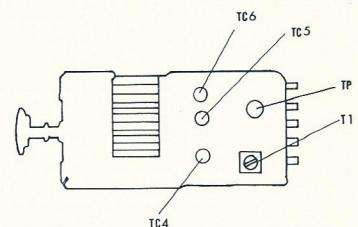

Fig. 7
- (1) Press the AM/FM button to set the radio for FM reception.
- (2) Inject test signal to TP terminal of Front-End Pack. (Fig. 7)
- (3) Connect high side of sweep generator through 0.01 mfd capacitor to the No. 1 terminal of IC-2. Low side to ground.
1. Set the radio for FM reception. (See Fig. 7)